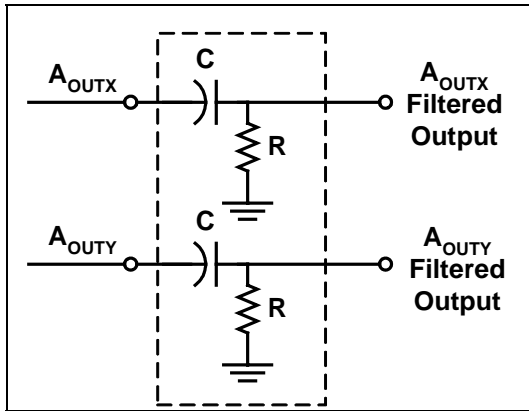

Figure 3: High Pass Filter
**AC Coupling** For applications where only dynamic accelerations (vibration) are to be measured, it is recommended to ac couple the accelerometer output as shown in Figure 3. The advantage of ac coupling is that variations from part to part of zero  $g$  offset and zero  $g$  offset versus temperature can be eliminated. Figure 3 is a HPF (high pass filter) with a  $-3\text{dB}$  breakpoint given by the equation:  $f = 1/2\pi RC$ . In many applications it may be desirable to have the HPF  $-3\text{dB}$  point at a very low frequency in order to detect very low frequency accelerations. Sometimes the implementation of this HPF may result in unreasonably large capacitors, and the designer must turn to digital implementations of HPFs where very low frequency  $-3\text{dB}$  breakpoints can be achieved.